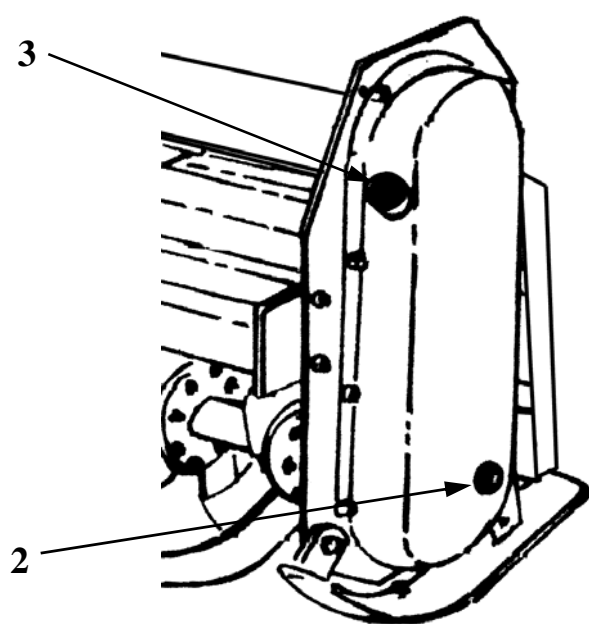

FIG. 4
- Check oil level in the cover gear by unscrewing the oil level plug (2 in fig. 4). If needed to add oil, unscrew the filler plug (3 in fig. 4) and fill in the cover until oil starts running out of the level hole.